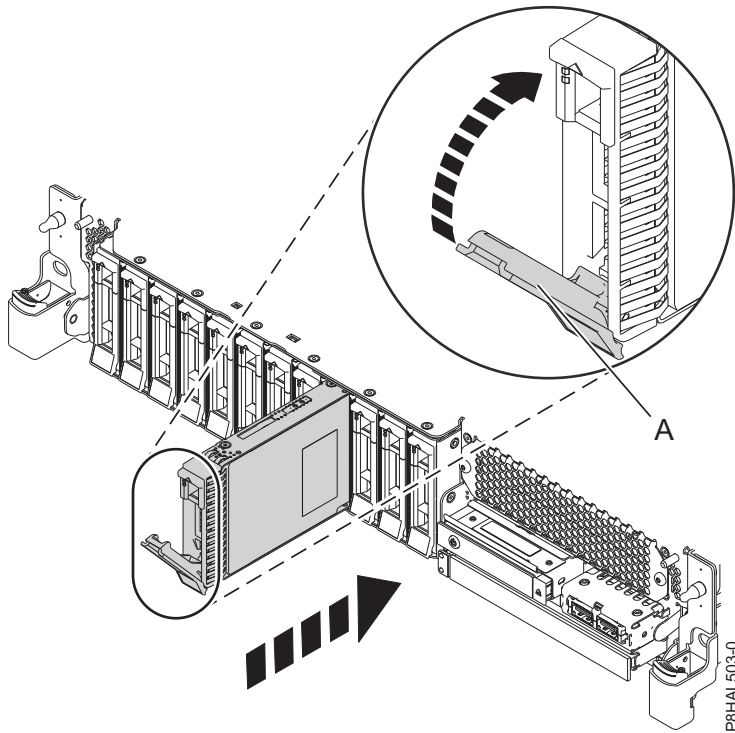
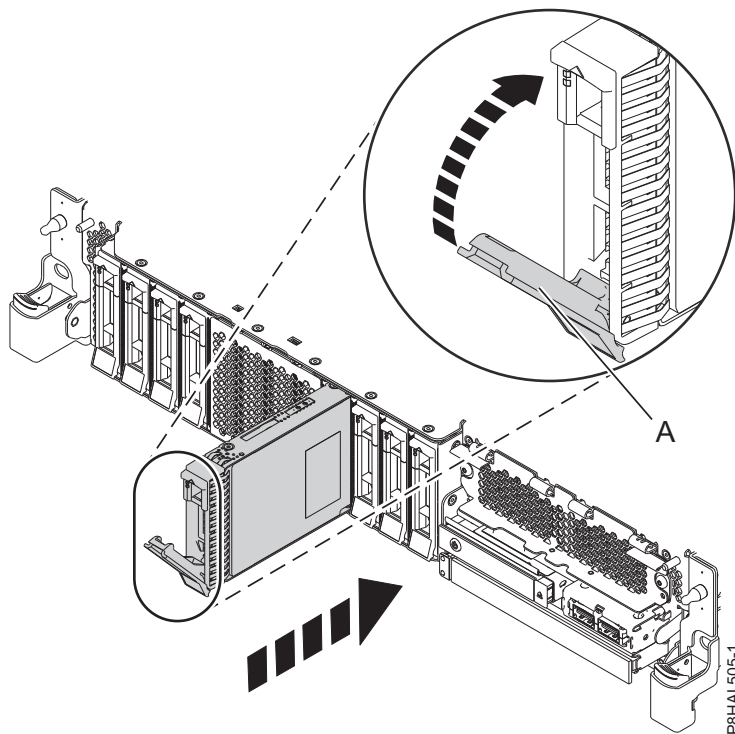

Figure 23. Installing a disk drive in a base function system
Figure 24. Installing a disk drive in an expanded function system
4. Unlock the drive bay handle (A) by pressing it and pulling it out toward you. If the handle is not all the way out, the drive does not slide into the system. See Figure 23 on page 26 and Figure 24 on page 26.
9. When the identify LED turns on solid, slide the drive all the way into the system, and push in the drive handle (A) until it locks, as shown in Figure 23 on page 26 and Figure 24 on page 26.